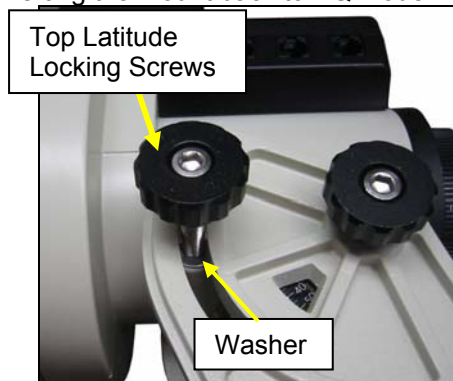

Figure 16
- Lay down the mount head and unscrew top two (2) Latitude Locking Screws (**Figure 16**). Keep two metal